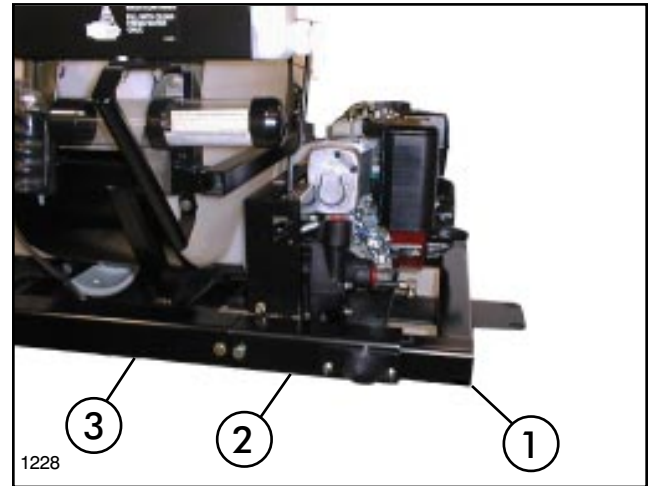

FIG. 2
6. Slide Tongue Adapter through Engine / Pump Base and into Saddle Assembly on end with Safety Decals on Tank. Secure with (4) 1/2” x 3-1/2” hex. hd. cap screws and flange locknuts. See FIG. 2.